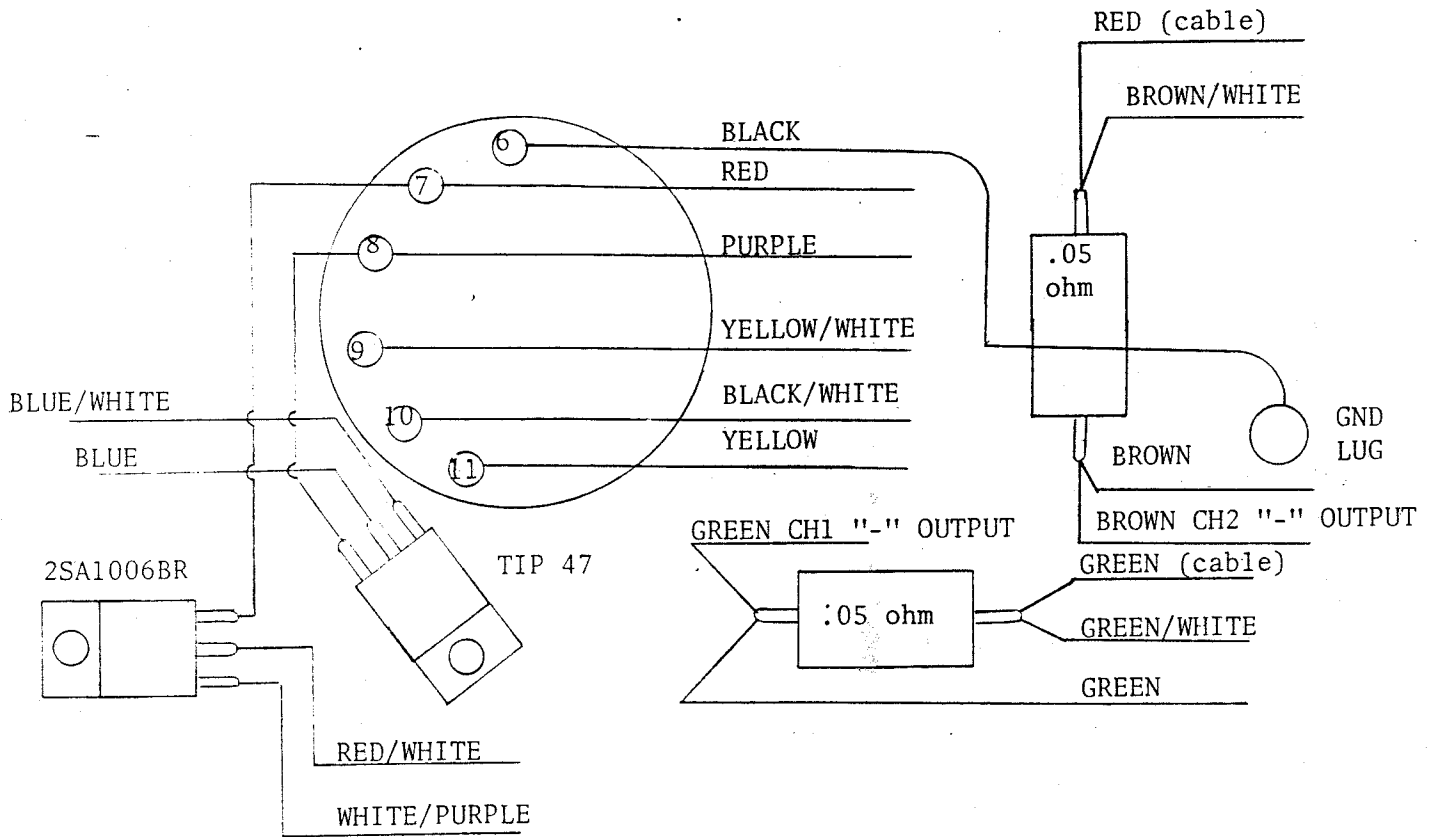

FIGURE 1
4. Verify the point to point wiring is correct per the component ID on the monitor (center) circuit board and Figure 1.